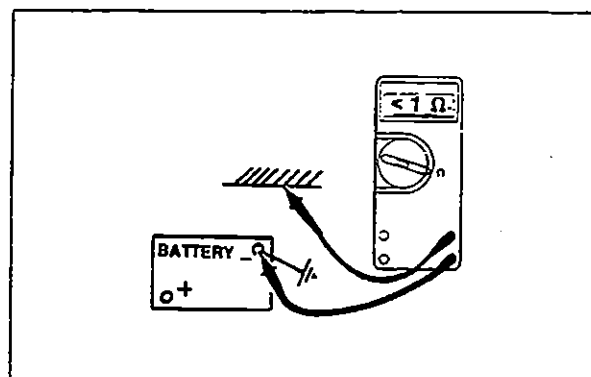
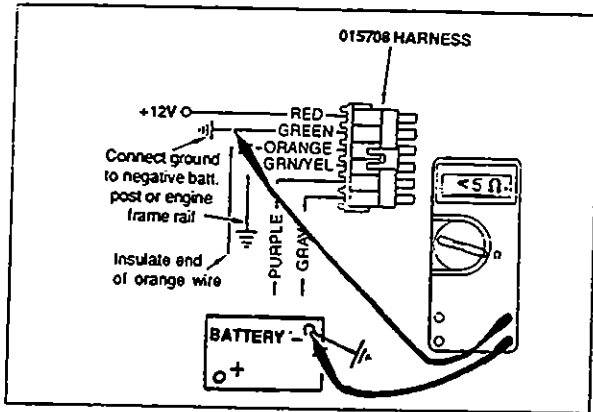

Fig. 1.1.28
Fig. 1.1.29
**Correction:** The resistance between the engine block and the negative terminal of the battery must be less than 1 ohm (Fig. 1.1.28). The resistance between the GREEN wire of the engine brake control module and the negative terminal of the battery must be less than 5 ohms for proper module operation (Fig. 1.1.29).